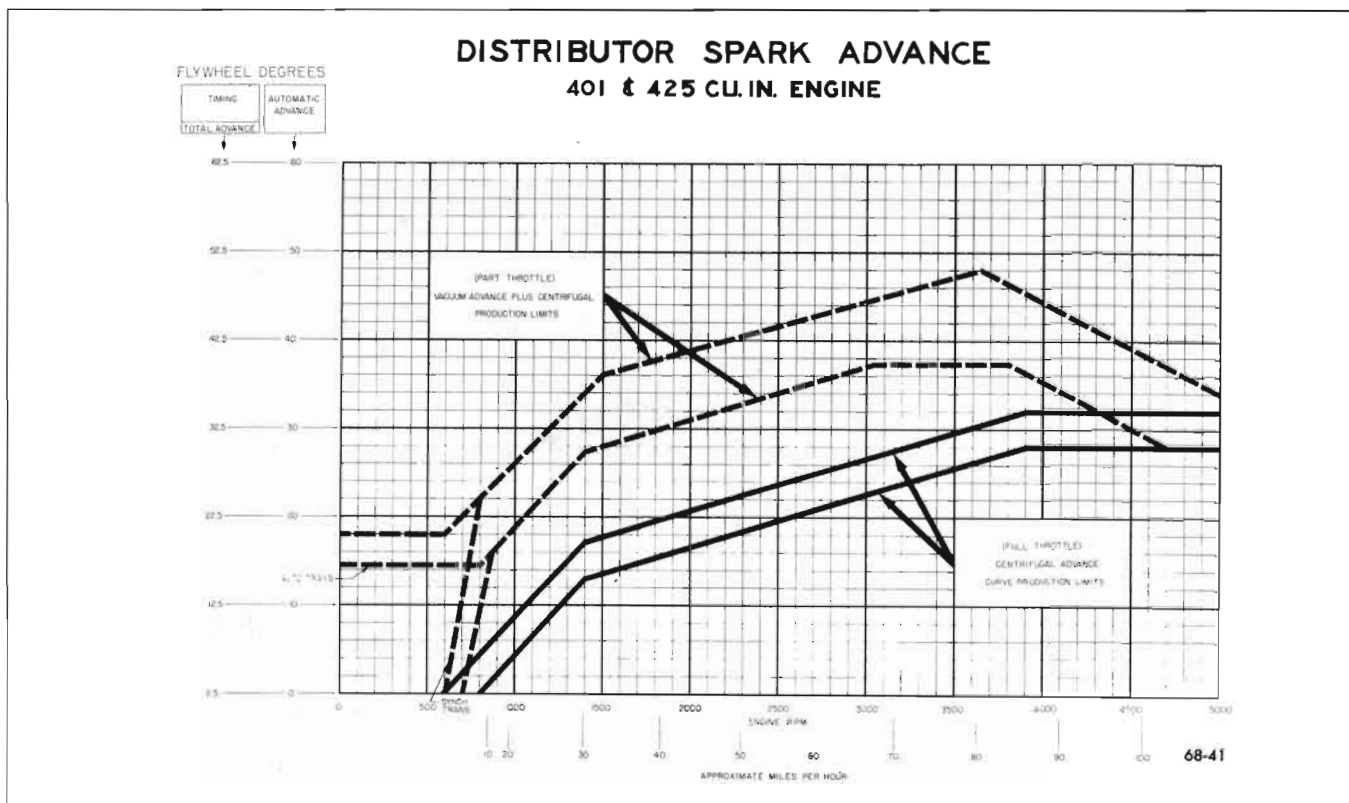

Figure 68-41—Distributor Spark Advance Chart - 400, 401 and 425 Engines
3. Start engine. Lift adjustment window and insert 1/8" Allen wrench in adjusting screw. See Figure 68-41. Set dwell angle at 30 degrees.